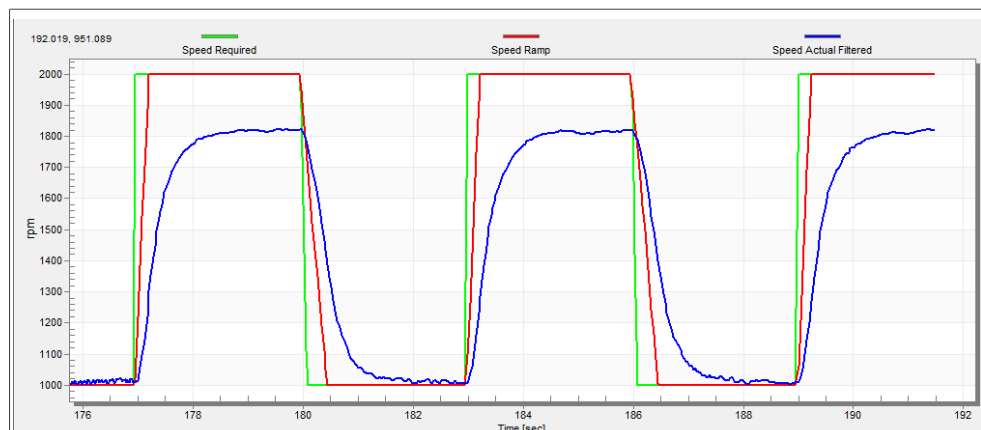

Figure 26. Speed controller response—SL_Ki value is low, Speed Ramp is not achieved
The motor speed control loop is a first-order function with a mechanical time constant that depends on the motor inertia and friction. If the mechanical constant is available, the PI controller constants can be tuned using the loop bandwidth and attenuation. Otherwise, the manual tuning of the P and I portions of the speed controllers is available to obtain the required speed response (see the example response in Figure 26). There are dozens of approaches to tune the PI controller constants. The following steps provide an approach to set and tune the speed PI controller for a PM synchronous motor:
- The “SL_Ki” value is low and the “Speed Actual Filtered” does not achieve the “Speed Ramp” (see Figure 26).